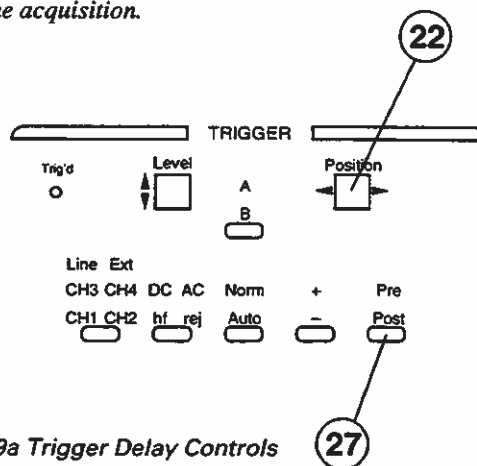

Fig 1.9a Trigger Delay Controls
The acquired data position before, after and delayed from the trigger point is controlled using the delay paddle (22). See figure 1.9a. The amount of pre trigger or delay is shown at the bottom of the trace display when the delay paddle is pressed.